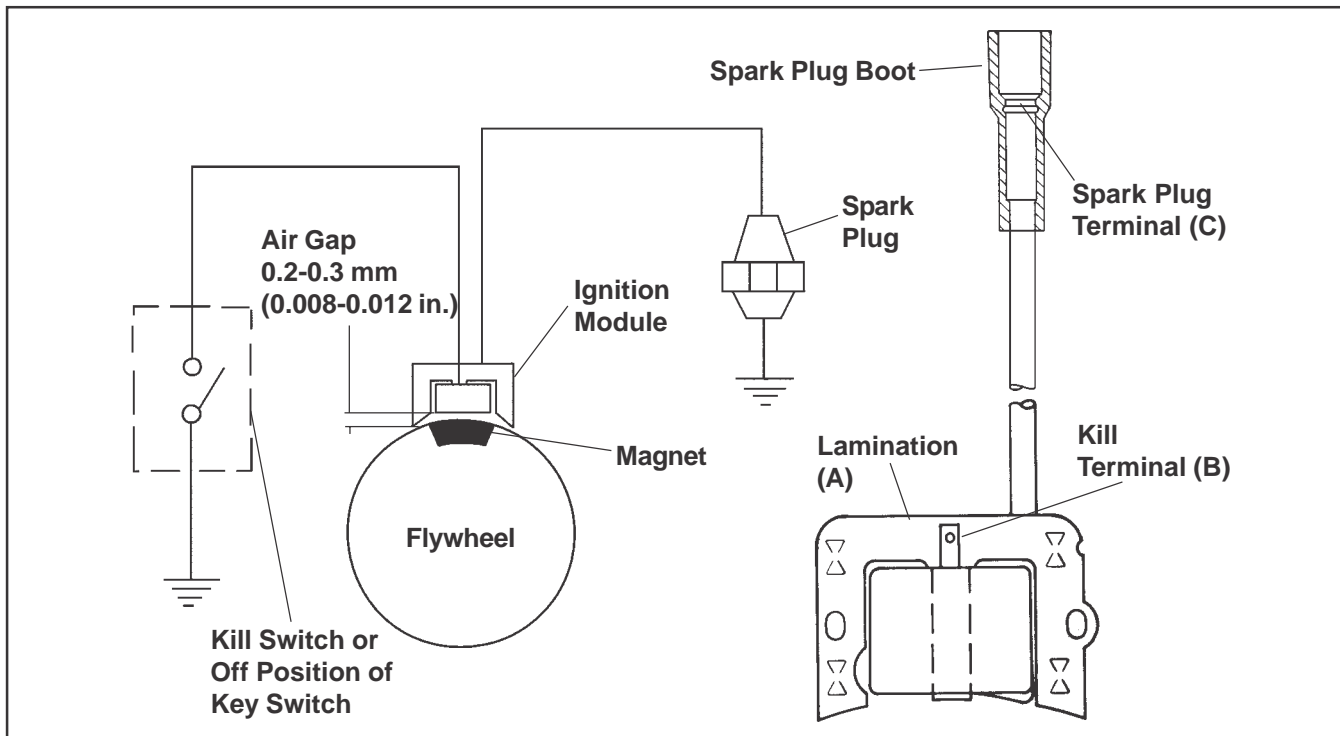

Figure 8-3. Electronic Magneto Ignition System, CH11-15 Engines.
4. Measure the resistance of module secondary using an ohmmeter (see Figures 8-3 and 8-4):  Connect one ohmmeter lead to laminations (A). Connect the other lead to the spark plug terminal of high-tension lead (C). With ohmmeter leads connected in this manner, the resistance of secondary should be 7,900 to 18,400 ohms .  NOTE: This test cannot be performed unless module has been fired at least once.	4. If the resistance is low or 0 ohms , the module secondary is shorted. Replace the module.  If the resistance is high or infinity ohms , the module secondary is open. Replace the module.  If the resistance is within the specified range, the module secondary is OK.